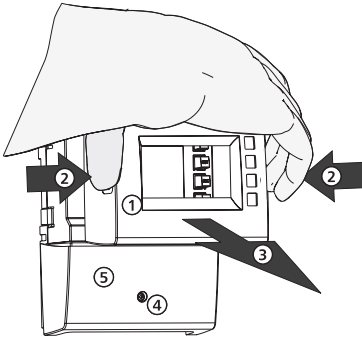

Fig. 1: Removing the front panel
- ▶ Grasp the front panel ① by the grooves at the sides ② and pull forwards ③ (Fig. 1).
1. Remove the screw ④ (Fig. 1).
2. Remove the terminal cover ⑤.